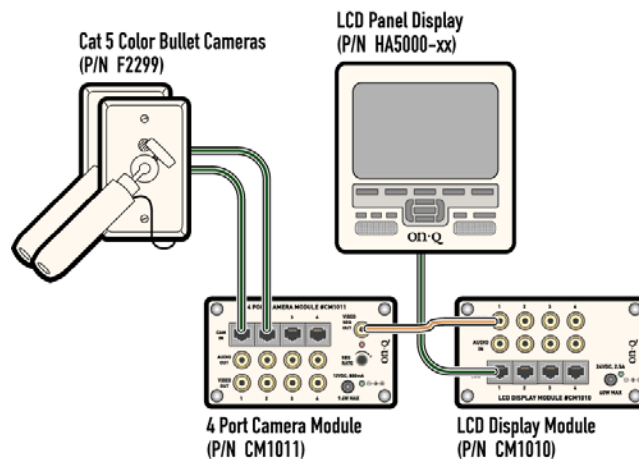

Figure 5
**Figure 5** shows video feeds from two cameras sequenced on a single output.